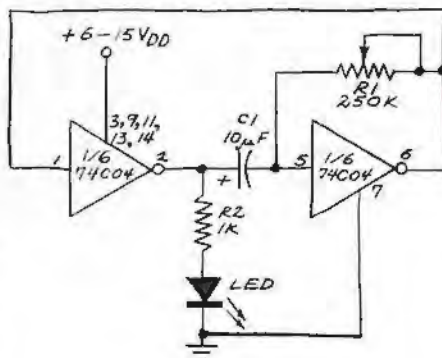

Fig. 2. Astable multivibrator.
**CMOS Astable Multivibrator.** A good way to become better acquainted with CMOS is to build a simple astable multivibrator from a few of the inverters in a 74C04 hex inverter. One possible circuit is shown in Fig. 2. This circuit will flash its LED at ample brightness while consuming only a few milliamperes from the four series-connected 1.5-volt alkaline AA cells. Excerpting current through the LED, the circuit consumes less than half a milliampere.